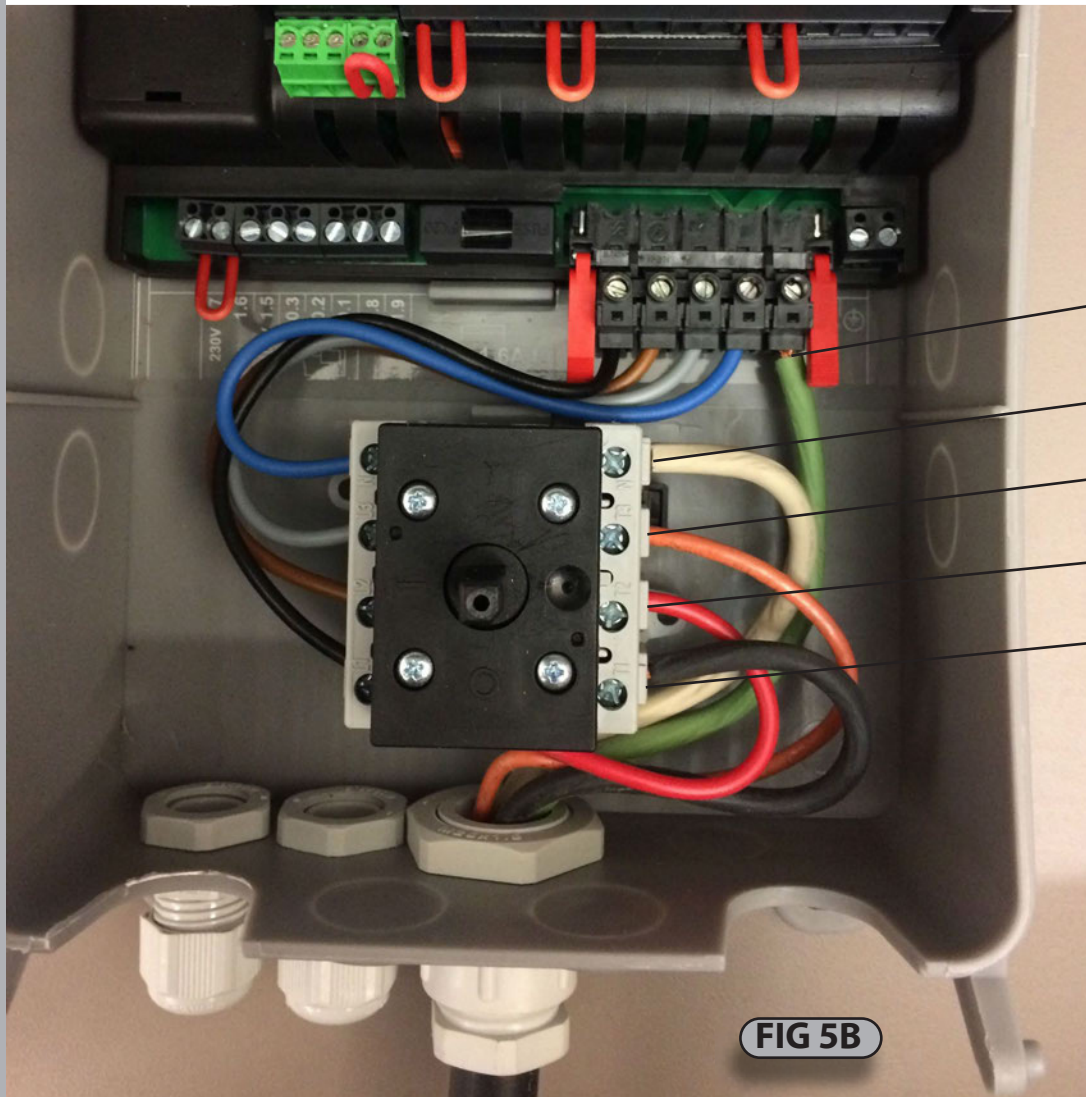

FIG 5B
-Connect mains power through the large knockout hole in the bottom of the control panel using a cable gland as shown in FIG 5B.